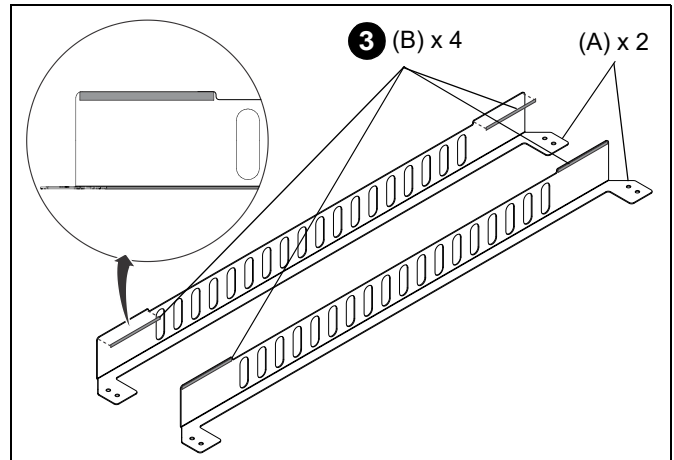

Figure 3
3. Cut four pieces from gasket roll (B) and install to inside edges of both side covers (A). (See Figure 3)